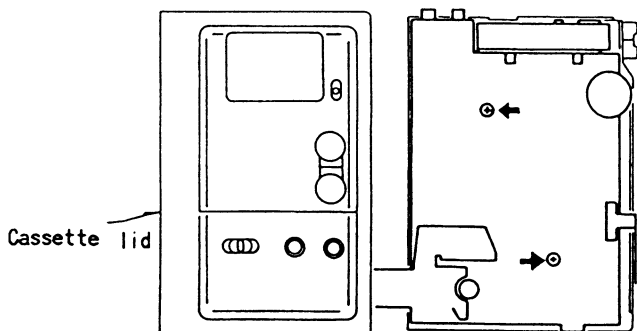

Fig. 3
- 1) Remove 2 screws. (See Fig. 3)